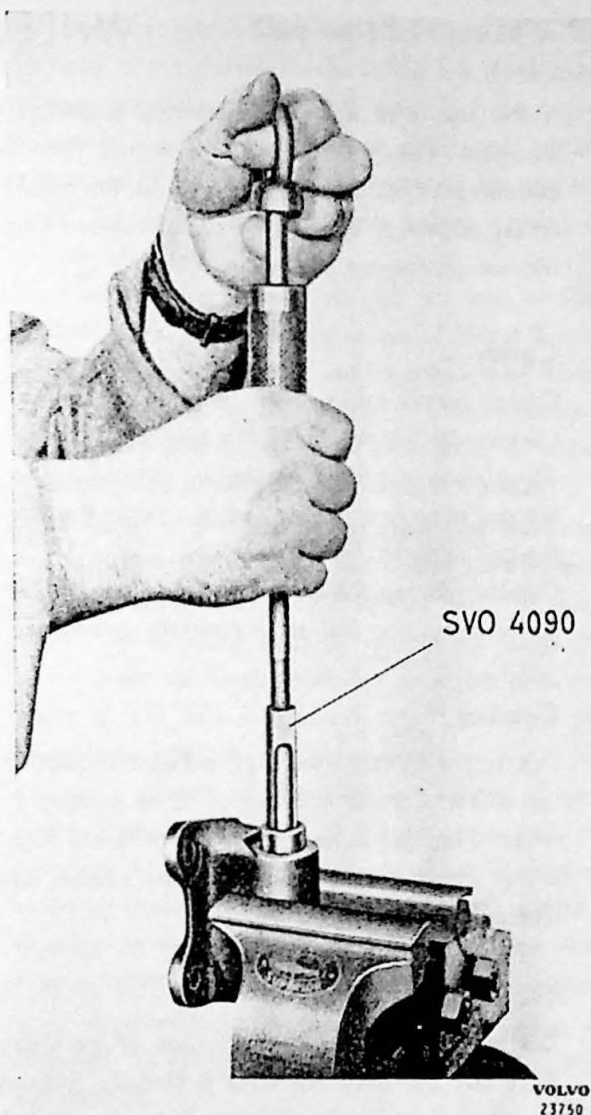

Fig. 6-32. Removing needle bearing
2. Clamp the bracket in a vise and pull out the needle bearings with a bearing puller, for example, SVO 4090 (Fig. 6-32).